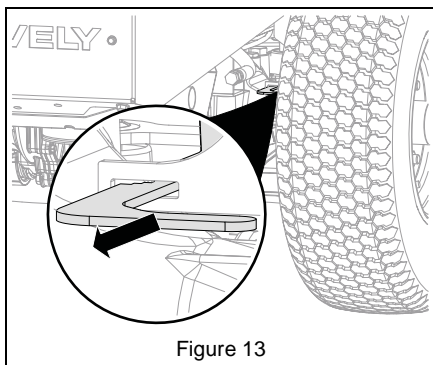

Figure 13
2. Pull both transaxle bypass levers out into bypass position. See Figure 13.